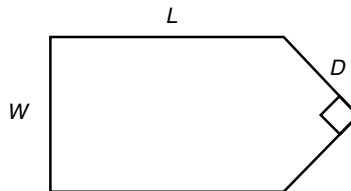

Figure P12
12. A fence around a field is shaped as shown in Figure P12. It consists of a rectangle of length L and width W , and a right triangle that is symmetrical about the central horizontal axis of the rectangle. Suppose the width W is known (in meters) and the enclosed area A is known (in square meters). Write a user-defined function `le` with W and A as inputs. The outputs are the length L required so that the enclosed area is A and the total length of fence required. Test your function for the values $W = 6$ m and $A = 80$ m².